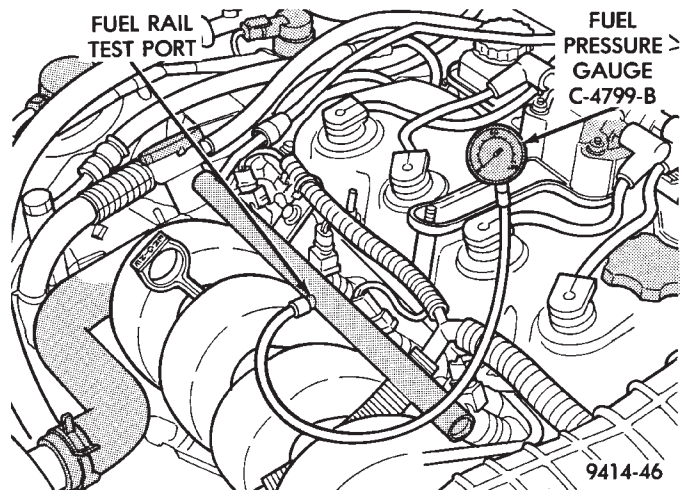

Fig. 5 Checking Fuel Pressure at Intake Manifold
- (1) Remove cap from fuel pressure test port on fuel rail.
- (2) Connect Fuel Pressure Gauge C-4799B to test port (Fig. 5).